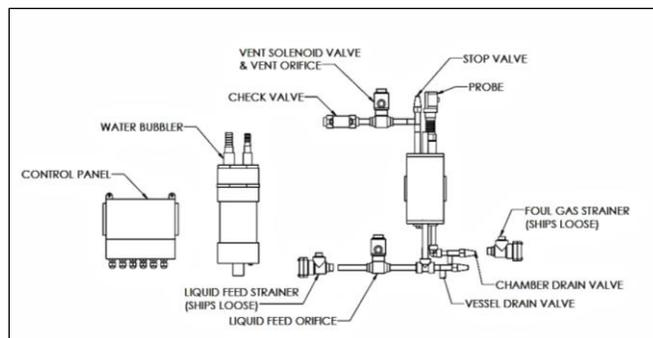

Figure 12: Major Components
The Phillips Purger JR is typically provided with the following items shipped loose (see figure 12):
Install the Probe, liquid feed (if necessary) and vent solenoids, temperature sensors, strainers drain valves and check valve in the locations indicated in figure 12.
1. Close the vent stop valve. (Refer to Figure 12)